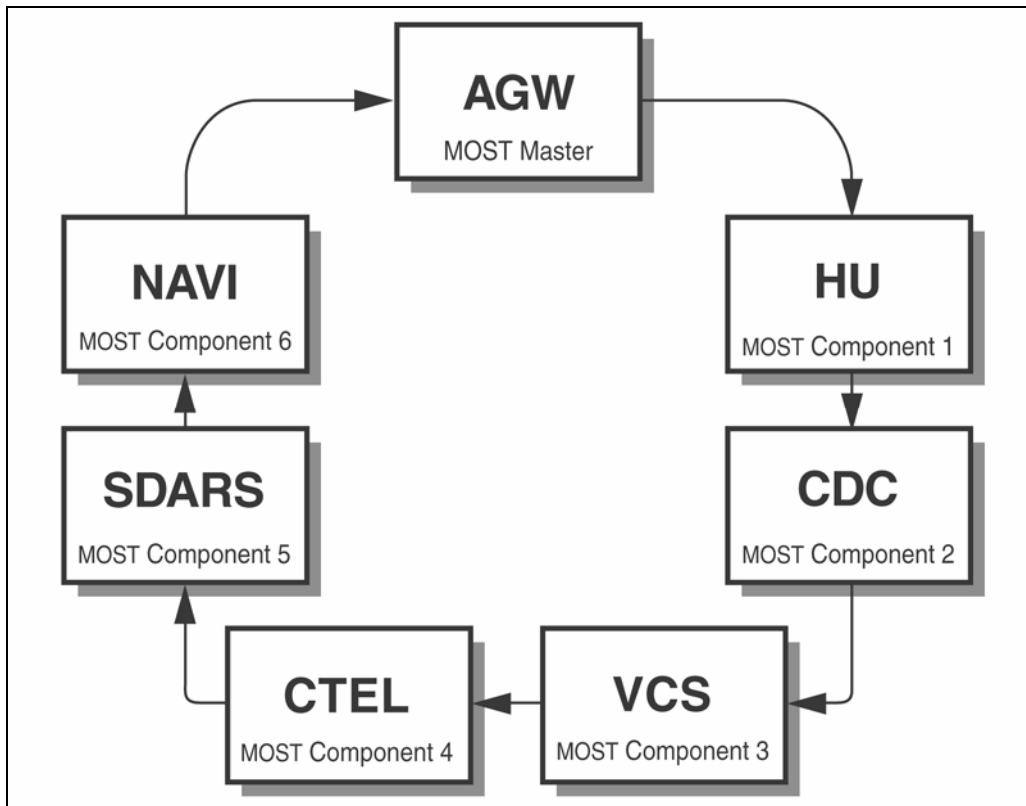

Figure 23
2. Configure the MOST optical fiber ring according to Figure 23.
2. Set the MOST ring configuration to match Figure 23 via path:
**Note:** The MOST ring configuration in Figure 23 is an example of a configuration including all possible components. Some installations will not include all the components shown in the example. If a component is not present, connect the preceding component to the component following the one not present.
**Match the MOST ring configuration to Figure 23.**
**Failure to have the configuration match Figure 23 will result in erroneous system operation and/or intermittent malfunctioning of some or all components in the ring.**
**Do not alter the configuration in Figure 23 to match the vehicle configuration.**